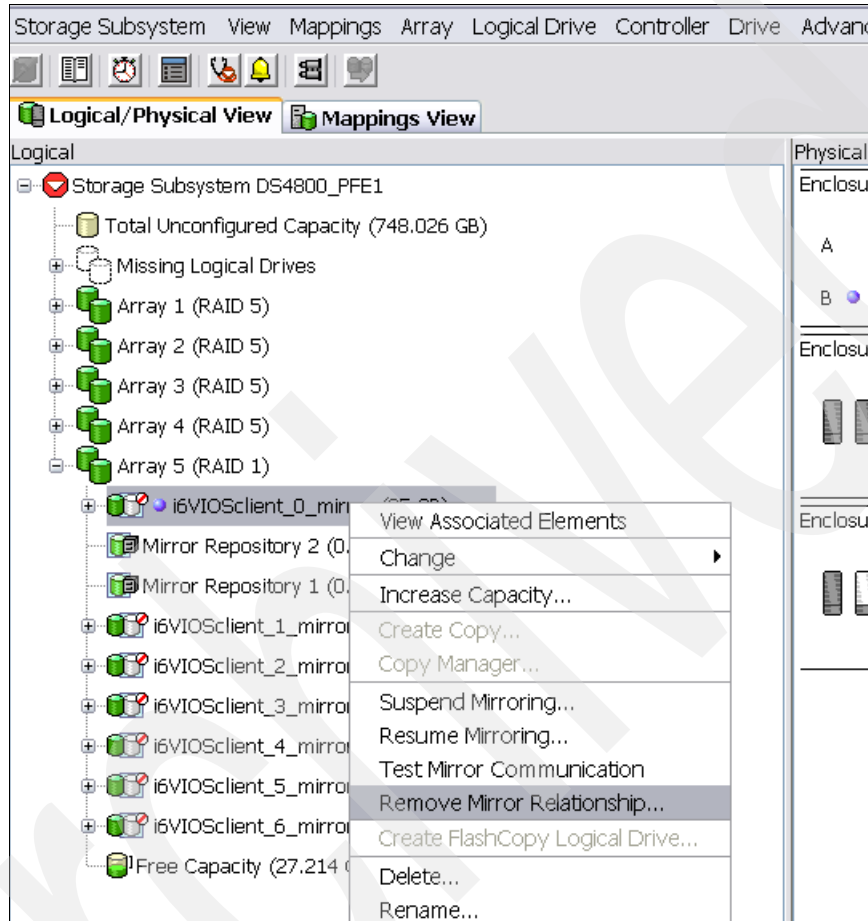

Figure 8-51 Remove Mirror Relationship
1. On the remote site terminate metro mirroring on each secondary logical drive by right-clicking the drive in the Storage Subsystem window and clicking **Remove Mirror Relationship**, as shown in Figure 8-51.